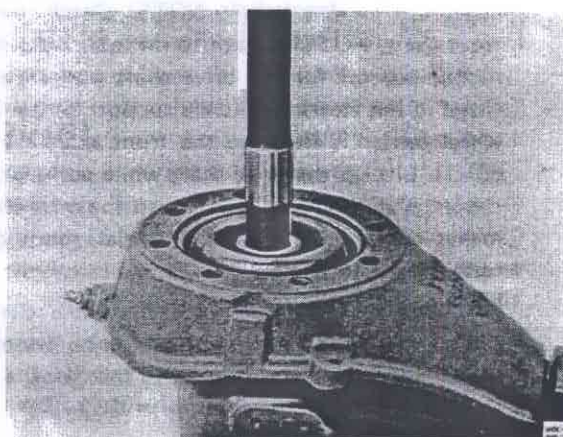

Fig. 63-15 Rubber bellows pushed down
14. Press down the rubber bellows as shown in Fig. 63-15. Let them remain pressed down until its shaft is in the support and the unit hangs on the guide pins.